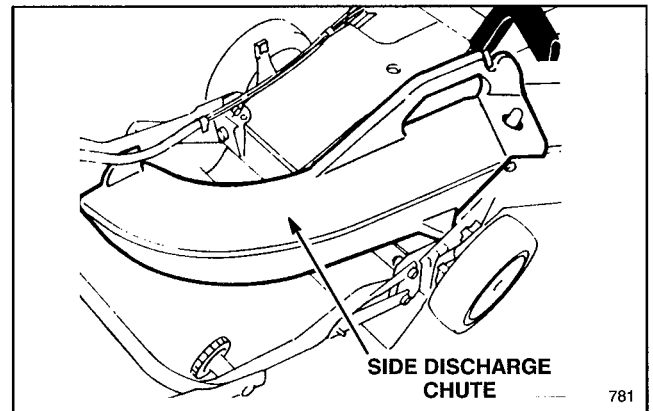

Figure 32
**2. Side Discharge Kit, Model 59168**—(requires Rear Bagging Kit, Model 59174). Installs in seconds. Rear mounted in place of grass bag or discharge tunnel plug. Disperses clippings while trimming on both sides (Fig. 32).